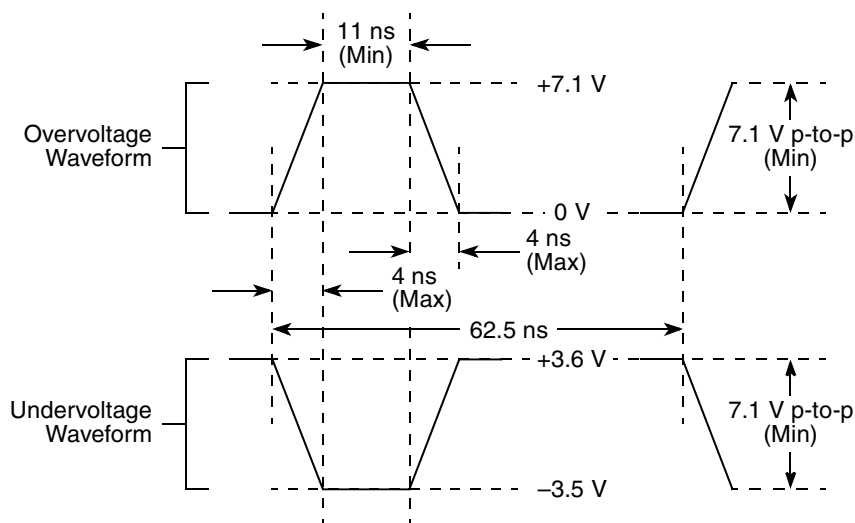

Figure 3. Maximum AC Waveforms on PCI interface for 3.3-V Signaling
- OV_{IN} on the PCI interface may overshoot/undershoot according to the PCI Electrical Specification for 3.3-V operation, as shown in Figure 3.
Figure 3 shows the undershoot and overshoot voltage of the PCI interface of the MPC8555E for the 3.3-V signals, respectively.